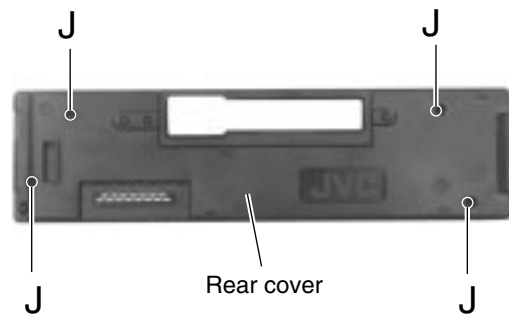

Fig.13
■ Removing the control switch board (See Fig.13 to 15)